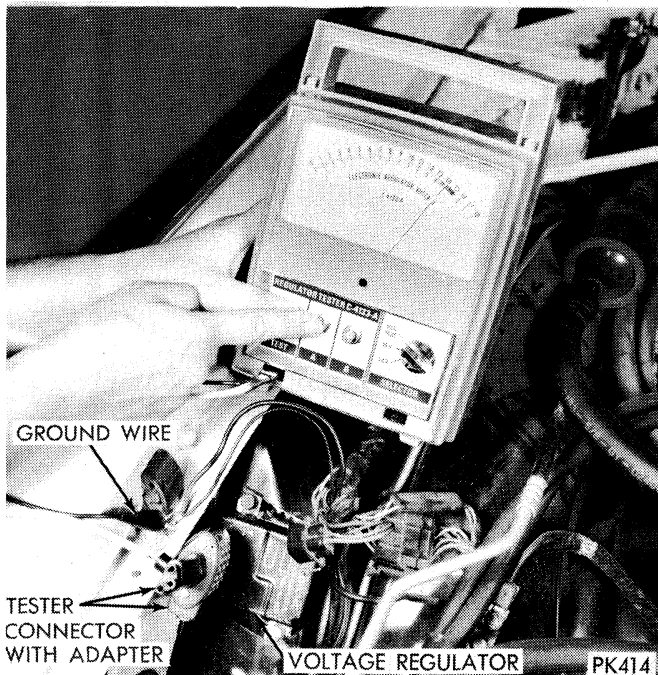

Fig. 10—Voltage Regulator Test (Depressing Test Button "A")
(7) While holding the test button in, depress **Black Button (A)** (Fig. 10), the meter reading should remain within the limits of step (6).